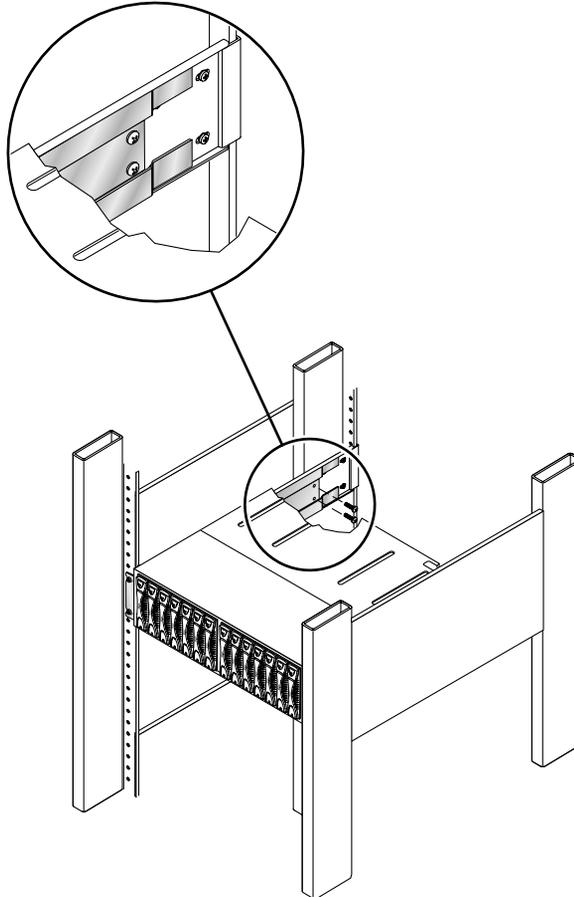

FIGURE 10 Securing the Back Array Bracket to the Side Rail with Two Screws
5. **Secure the left back bracket of the array to the side rail using two screws (FIGURE 10).**